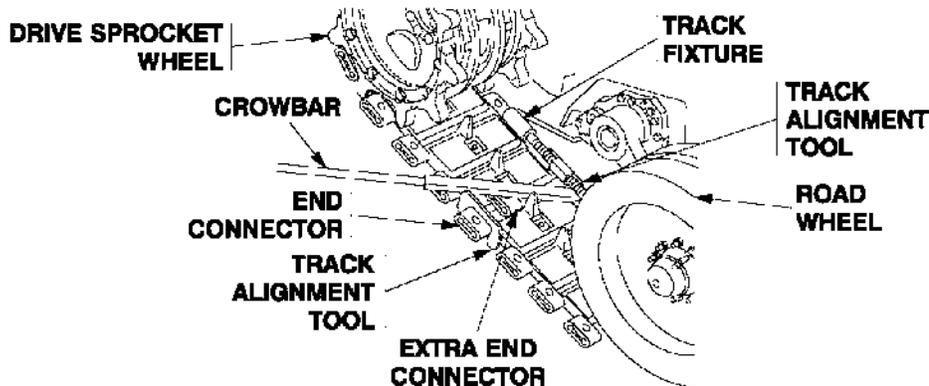

Figure 8. Install T150F Track Assembly on Vehicle
- e. Install T150F Track Assembly on vehicle (Figure 4 through Figure 8).